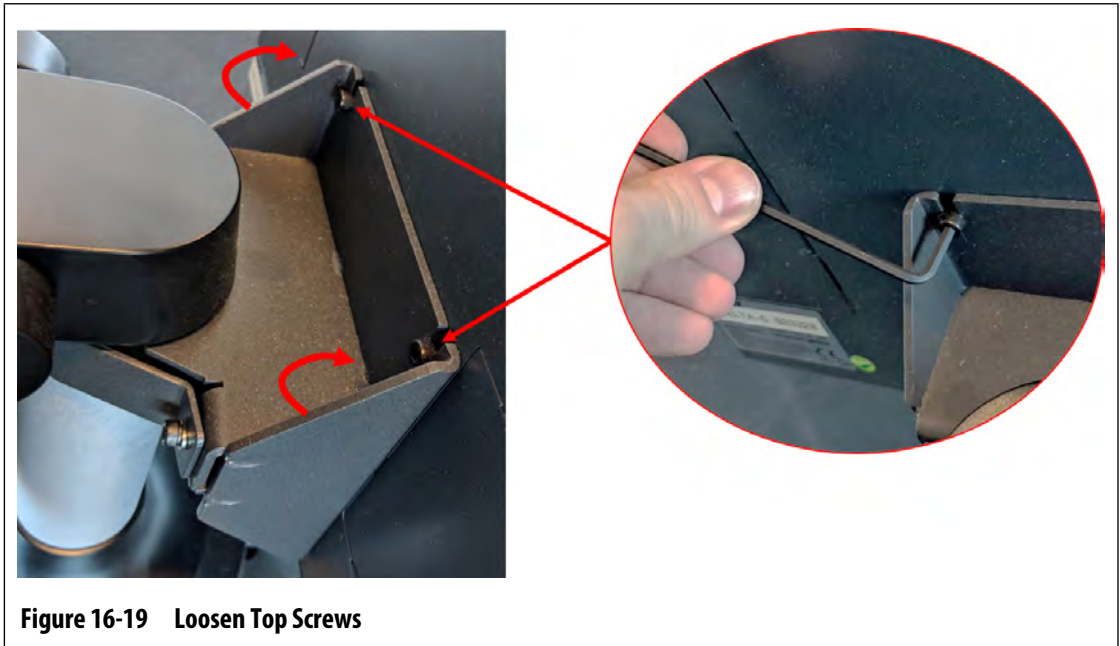

Figure 16-19 Loosen Top Screws
- Find the two top fasteners that hold the MCU to the mounting bracket and loosen them with a 4 mm right-angle Allen key or hex wrench. Refer to Figure 16-19.